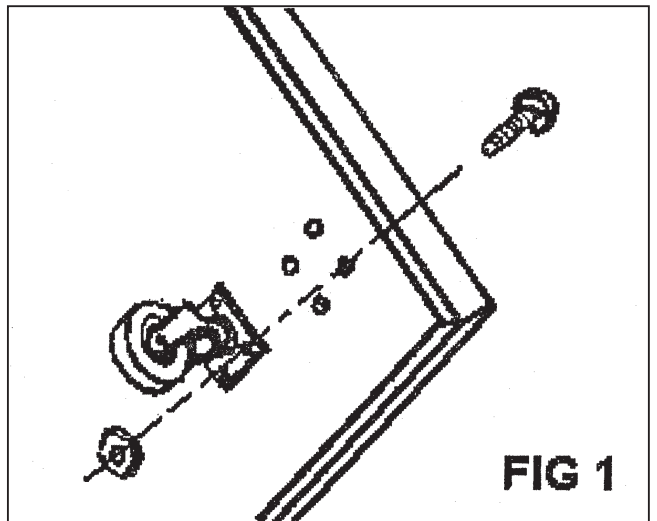

FIG 1
1. Stand the base and adjust the caster holes to align with the base holes, then tighten the nuts and screws by means of screwdriver and wrench. (Fig. 1.)